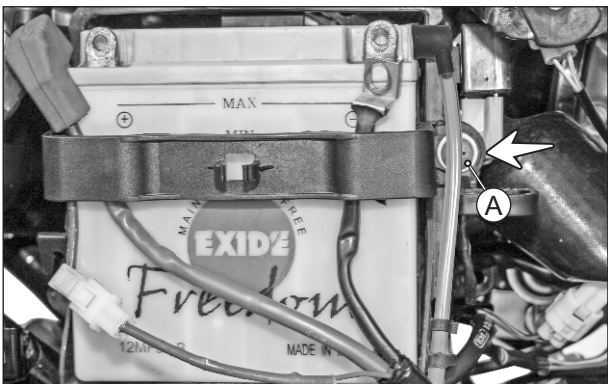

Fig. 5.64
- Remove the clamp by removal of the CRR pan head screw (M6x16 - 1 no.) (A) and take out the battery assembly. (Fig. 5.64)